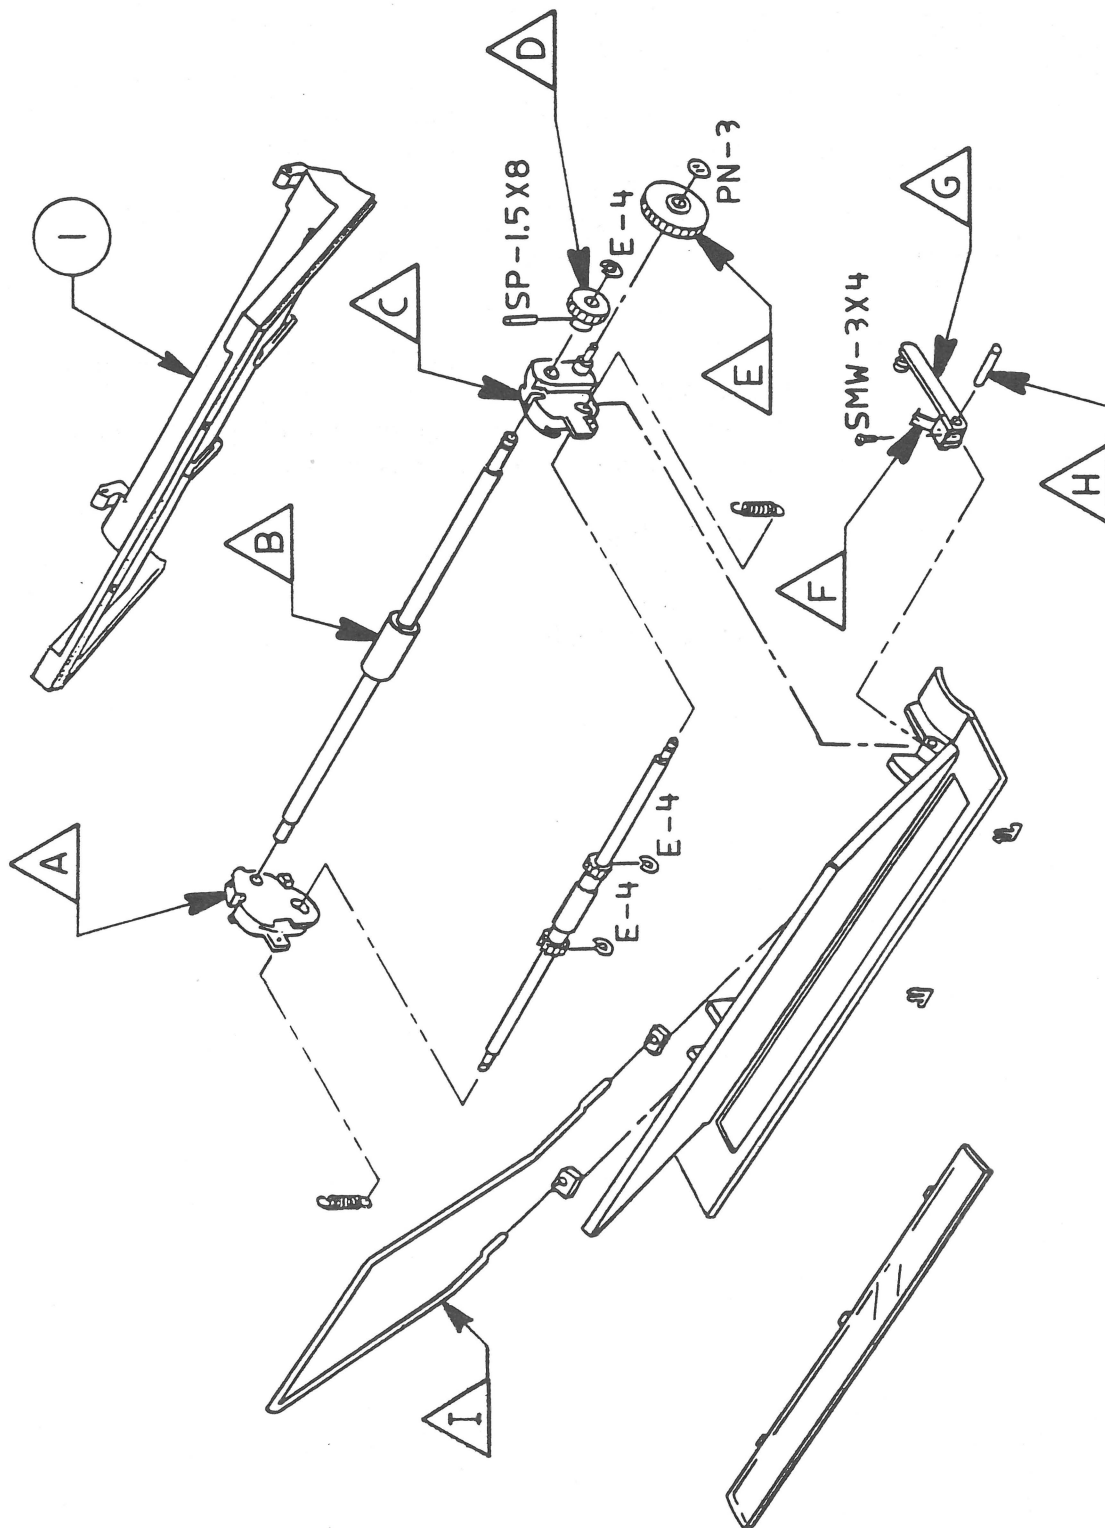

FIGURE 4
IPL.9	Paper Tray Assembly (Figure 4)
076-0242	SheetFeeder Paper Tray Assembly, Platinum (See Figure 4.)
□ PAPER TRAY ASSEMBLY (Figure 4)